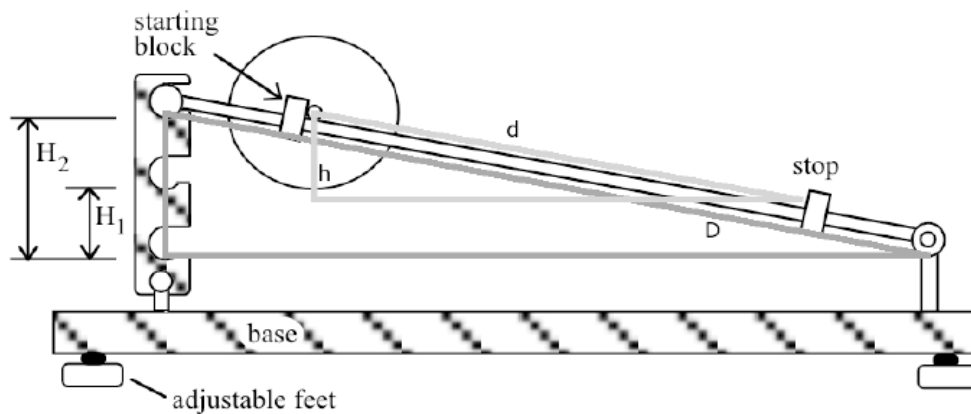

Figure 4: The rolling track you will use in the lab, including similar triangles you can use to find the height drop of the axle.
1. One end of the rails can be raised and lowered to one of three positions (see Fig. 4). Place the rails in the lowest position, at which they are approximately level, and then use the adjustable screws in the base to make the rails exactly level. Use the bubble level to get a rough level and then place the wheel on the rails to get a precise level.